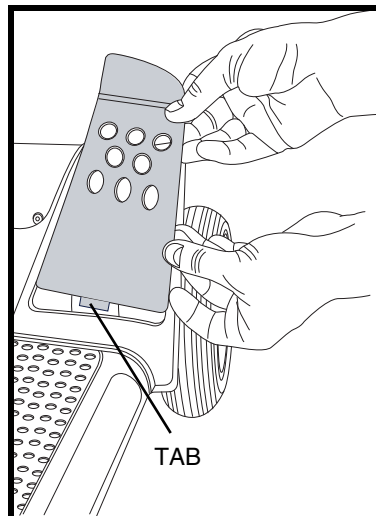

Figure 10. Front Fender Panel
2. Push through the hole to separate the piece from the Travel Scooter. See figures 10, 11 and 12.
NOTE: When installing the front and rear fender panels, make sure the tab at the bottom of each panel is inserted into the tab opening before securing the panel. See figure 10.